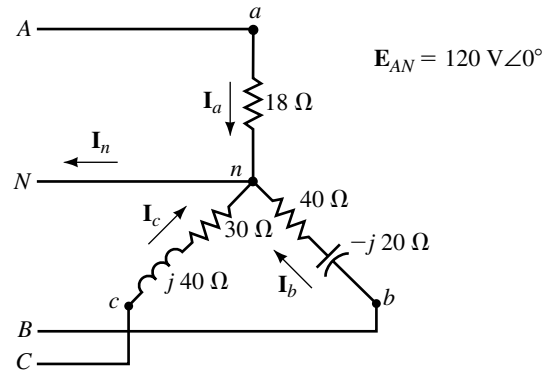

FIGURE 23-57
55. For Figure 23-57, compute the following:
56. Remove the neutral conductor from the circuit of Figure 23-57 and compute the line currents. *Hint:* Use mesh equations.
61. **EWB** or **PSpice** For Figure 23-57, let $L = 40 \text{ mH}$, $C = 50 \mu\text{F}$, and $\omega = 1000 \text{ rad/s}$. Solve for line and neutral currents.